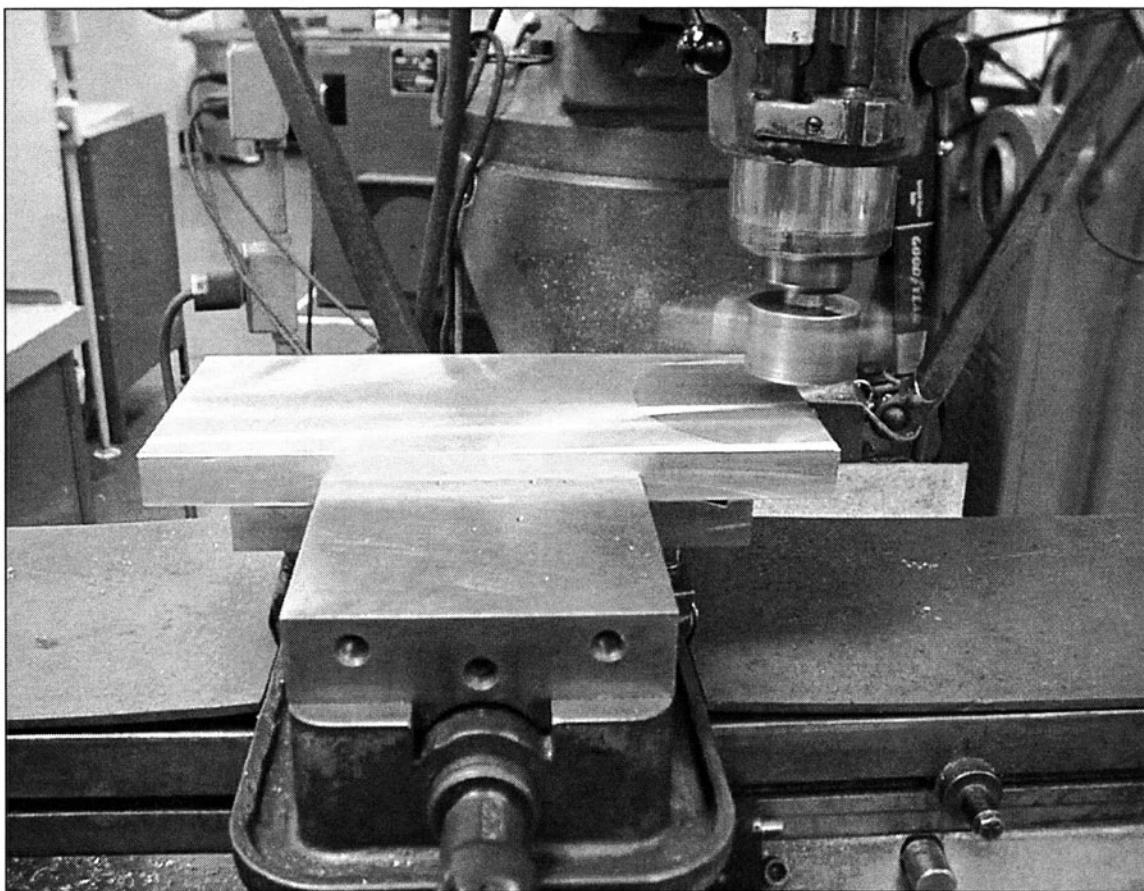

FIGURE 1-1 Full width cuts are the fastest way to clean up a surface and also make parts look better.
5. In a milling machine, when practical, use a large enough cutter to cut across the entire surface of the part in one pass. (See Fig. 1-1)